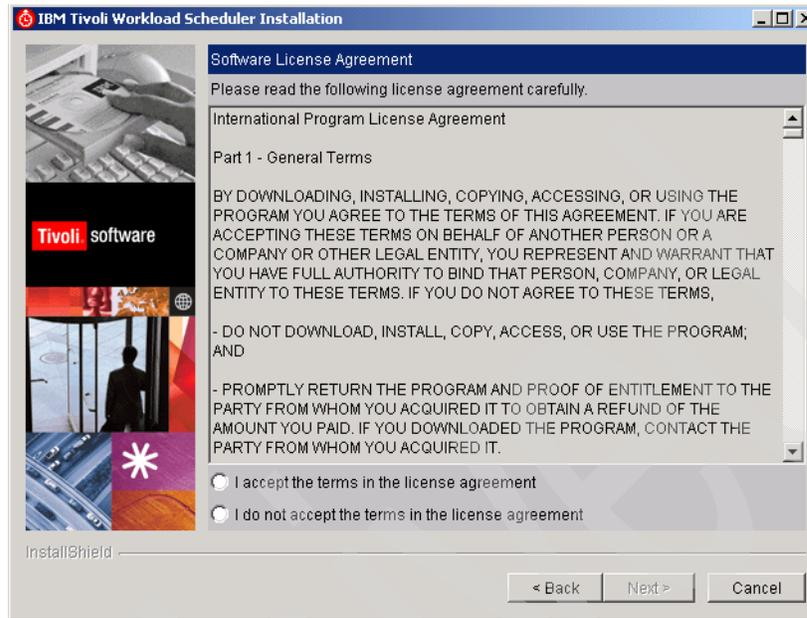

Figure 15-20 IBM Tivoli Workload Scheduler License Agreement
3. Accept the IBM Tivoli Workload Scheduler License agreement (Figure 15-20).